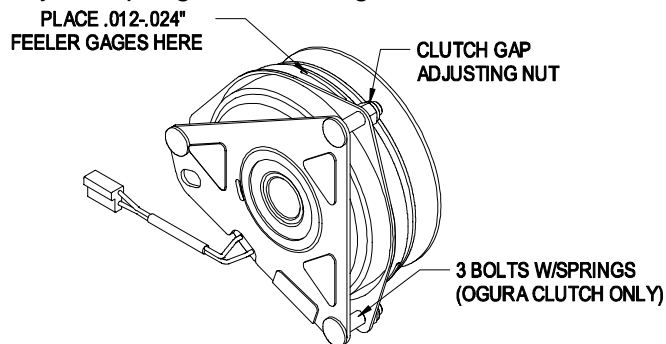

FIGURE 14
Determine the brand of clutch installed on your unit. Ogura clutches can be identified by 3 bolts with springs. See Figure 14. Warner clutches do not have these bolts.
- c) Place .012-.024 inch feeler gages through each of the three clutch gap holes. If gap exceeds this range, tighten the three adjusting nuts until the proper gap is obtained (See Figure 14). The three clutch gap holes are located at the "nut side" of the adjusting bolts. The adjusting bolts can be identified by the springs surrounding each bolt.